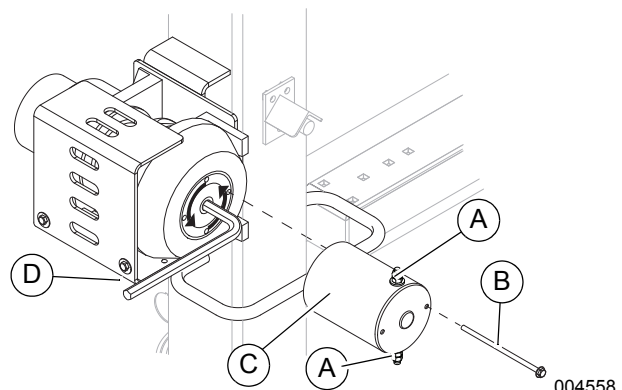

Figure 3-11. Winch Assembly
1. See Figure 3-11. Remove the power cables from the two terminals on the winch motor assembly (A).
2. Remove the two flange head screws (B) securing the winch motor assembly to the winch. Retain the screws for reassembly.
3. Carefully remove the motor assembly (C), verifying the two pieces do not separate.
4. Insert a 3/8" allen head wrench (D) into the sleeve bearing.